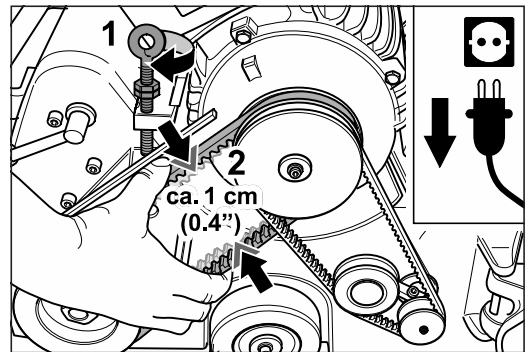

Fig. 69 Tension the drive belt using the tensioning bolt at the motor (1).
- 10 Mount the new V-belts and tension the drive belt using the tensioning bolt at the motor (fig. 69, 1).
The slack on the V-belt should be approx. 1 cm (0.4") if compressed with normal effort (fig. 69, 2).